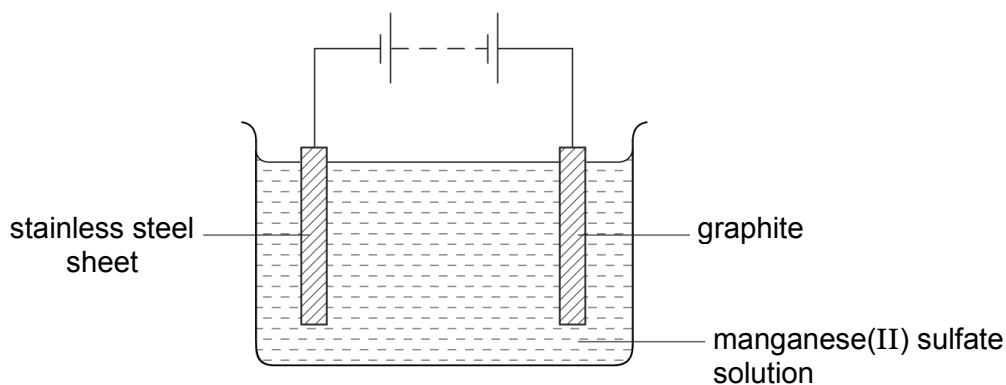

Fig. 7.1
If pure manganese is required, the manganese ores are first roasted to obtain manganese(II) oxide and then reacted in dilute sulfuric acid to form raw manganese(II) sulfate solution. Aqueous ammonia is then added to precipitate out iron(III) and aluminium ions. The addition of aqueous hydrogen sulfide will precipitate out cobalt, copper, lead and zinc. The purified solution is electrolysed using stainless steel and graphite electrodes as shown in Fig. 7.1. The electrolyte must be replaced periodically or effervescence at the cathode will intensify.